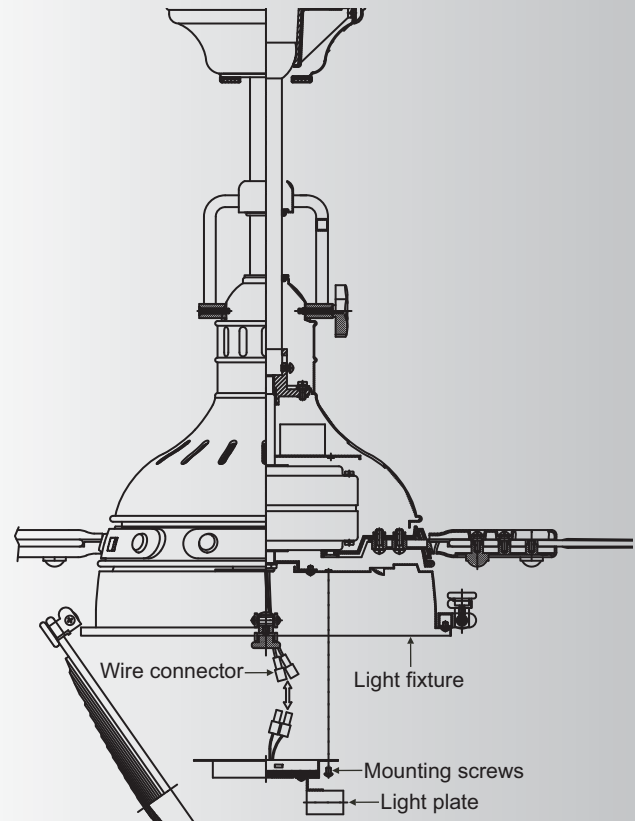

Fig. 18
Hold the light plate close to the light fixture and connect the white wires from the light plate and the fan. Follow the same procedure with the black wire connectors. (Fig. 18)
Step 3. Place the light plate key holes over the three mounting screws inside the light fixture and turn the light plate until it locks in place at the narrow section of the key hole slots. Secure by tightening all three screws. (Fig. 18)